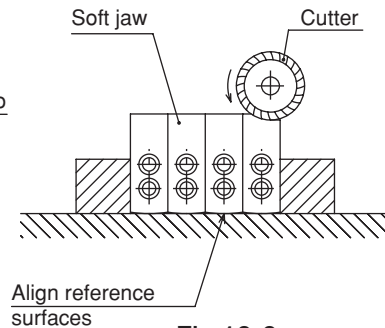

Fig.12-2
2. If a gripped portion of workpiece is a square, remove the soft jaws and align the reference surfaces as shown in Fig.12-2, and form the gripping portions with a cutter.